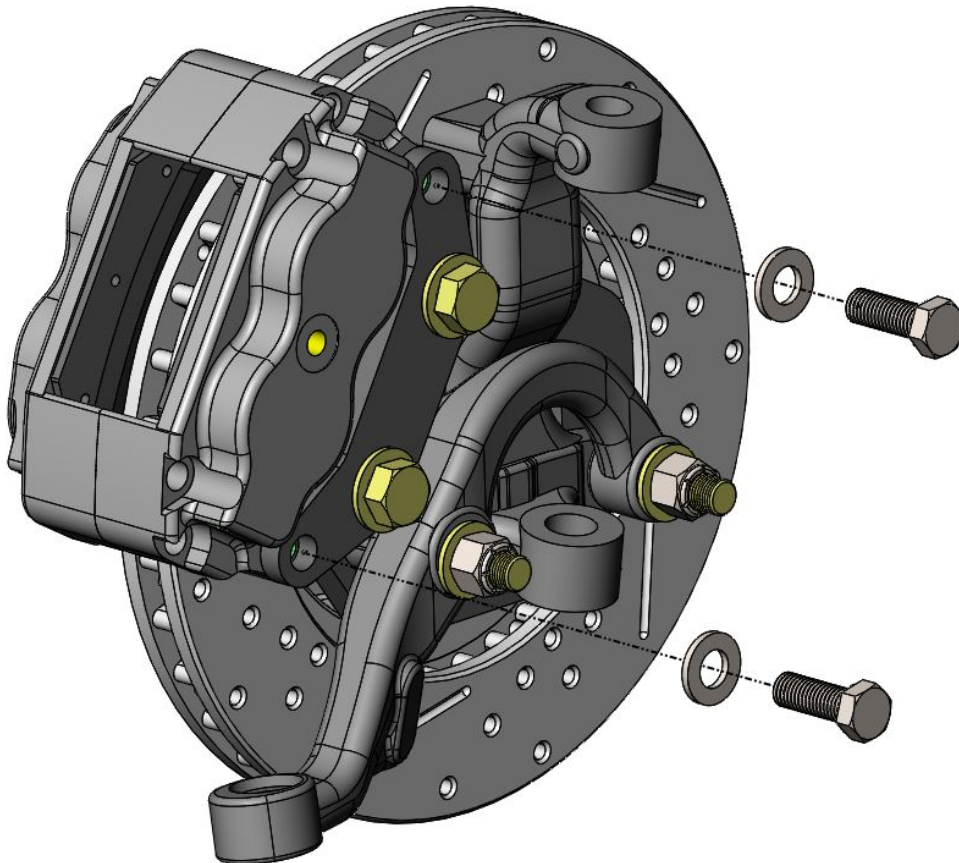

Figure 6 – Caliper Installation (Driver Side F-Body Spindle/Steer Arm Shown Above)
8. With the pads removed from the caliper, position the caliper over the brake rotor and secure using the supplied M12 x 35mm Hex Head Bolts. Snug the bolts only at this time as they may need to be removed at a later step for shimming. Refer to Figure 6 below for reference.